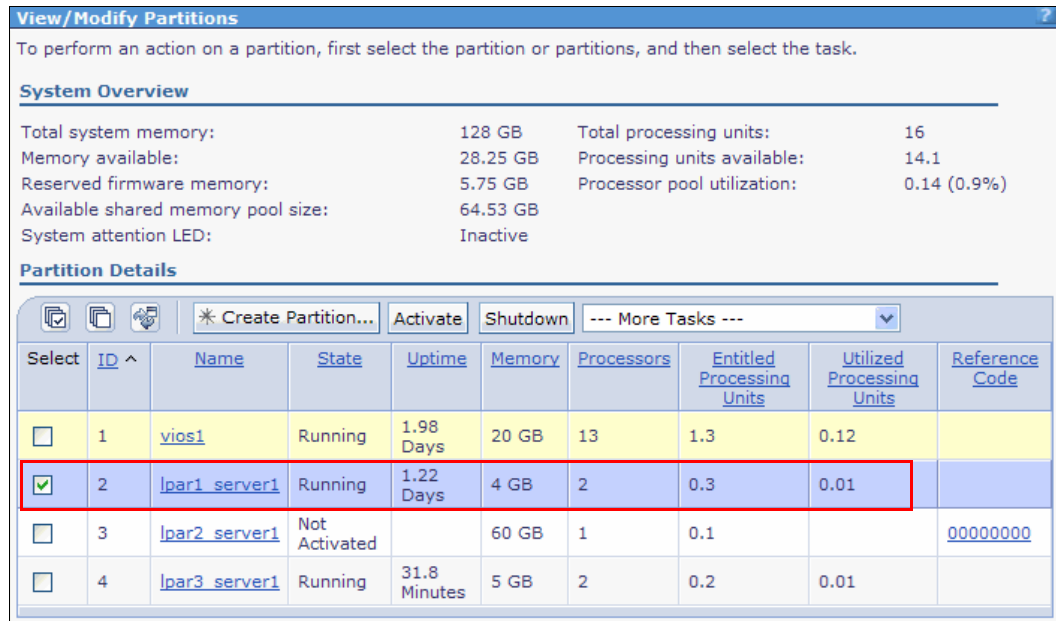

Figure 4-76 Selecting the LPAR on the View/Modify Partitions panel
1. **Select** the partition that you want to migrate on the **View/Modify Partitions** panel, as shown in Figure 4-76.